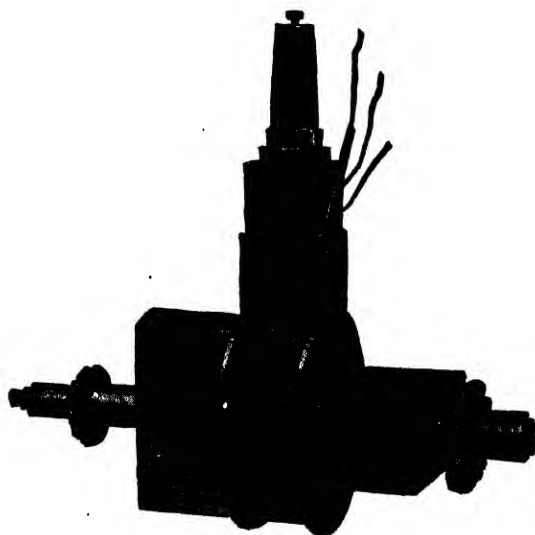

Fig. 67. Rotor and Winding of K-W Inductor Magneto
*Typical Construction Details and Current Production.* The magnetic field is produced by permanent magnets in the same manner as on other types of magnetos and a mass of laminated soft iron is rotated between the pole pieces while the winding is stationary. The moving element is termed the rotor, and this part of the K-W high-tension magneto is shown in Fig. 67. The stationary